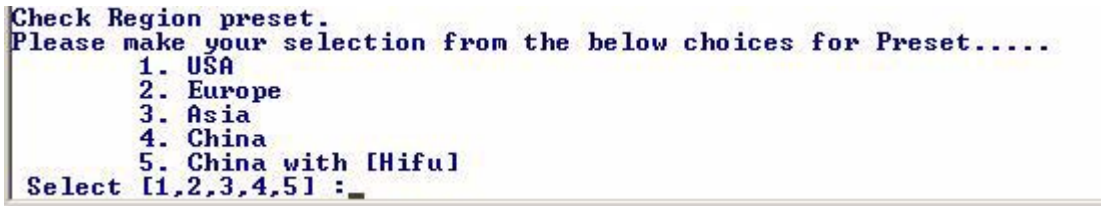

Figure 8-147 Select Region
- 3.) To apply the preset by region, select one of the below options. Refer to Figure 8-147.